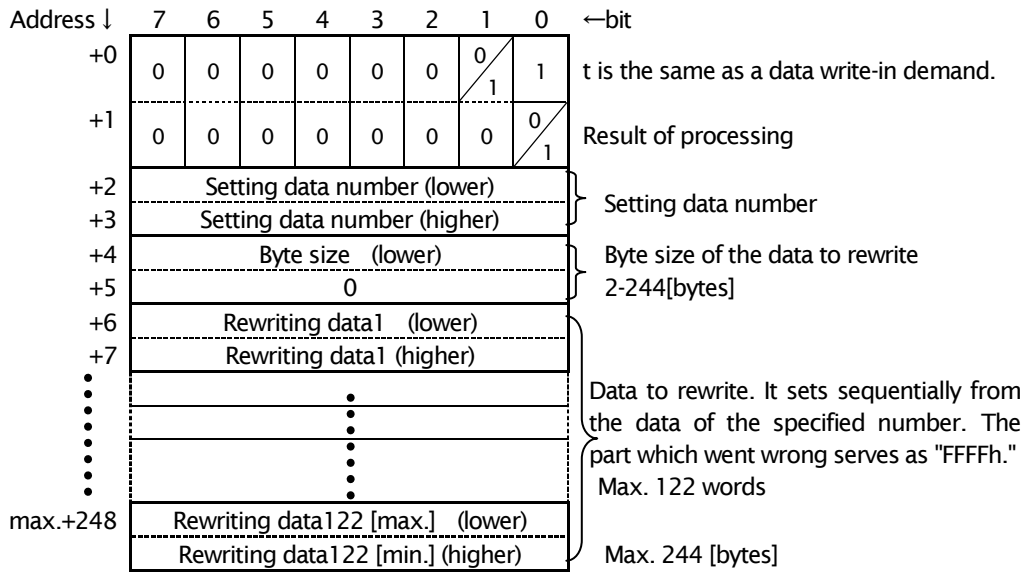

Figure 3.23 Data composition of the master station data readout check SDU (Setting data readout result)
- 4) As a data readout demand, OPCN66-Z gives a S/F (success or failure of processing) bit to 1st word, and replies monitor data(figure 3.23). 122 words setting data is transmitted at the maximum at once. When rewriting of setting data goes wrong, "FFFFh" is written in the part of the data.